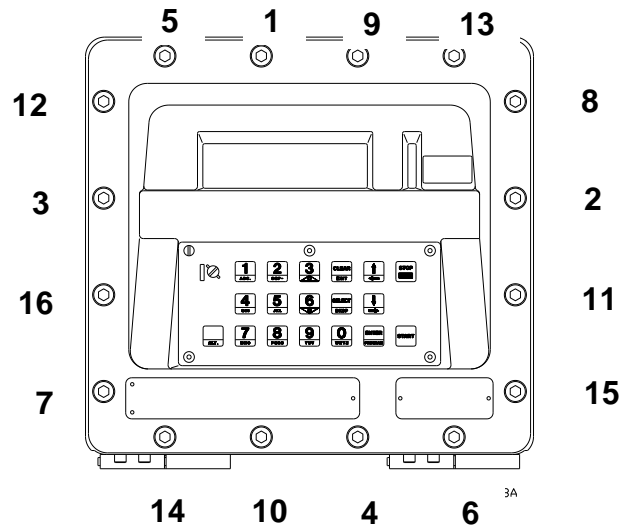

Figure 2-3. Bolt Tightening Sequence
- The bolt in position 9 (see *Figure 2-3*) is factory-installed. Be sure that the bolts you install in positions **12** and **8** are the two longer bolts with pre-drilled holes (for the Weights & Measures seal wires).
2. Insert a bolt in position 1 (refer to *Figure 2-3*) and finger-tighten the bolt until you feel resistance.
3. Insert a bolt in position 2 (refer to *Figure 2-3*) and finger-tighten the bolt until you feel resistance.